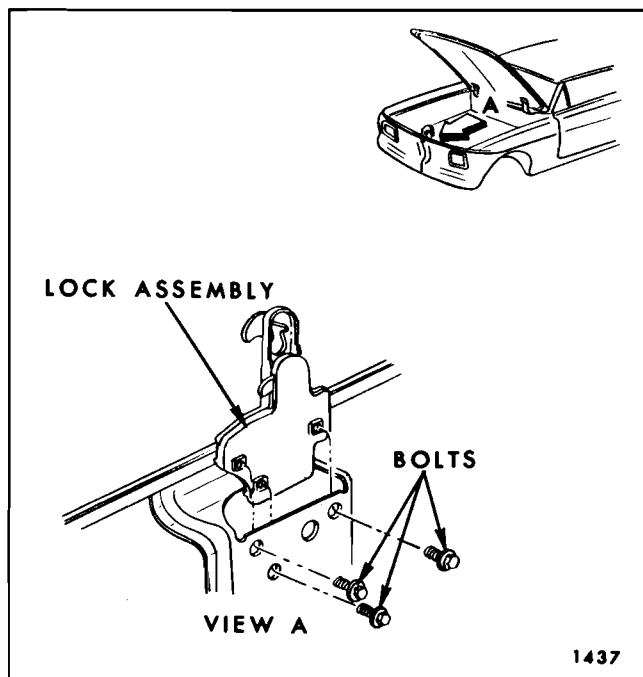

Fig. 5-29—Front Compartment Lid Lock
2. Remove bolts (Fig. 5-29) securing lock to lid lock support and remove lock assembly.